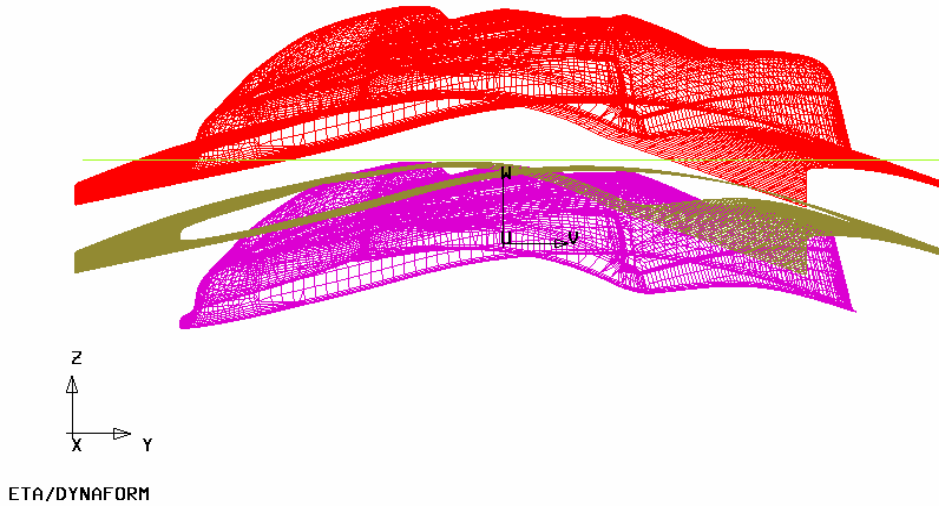

Figure 1.38 Animation of tool movement
6. The time step and displacement of tools are printed on the upper left hand corner of the display area. See Figure 1.38.